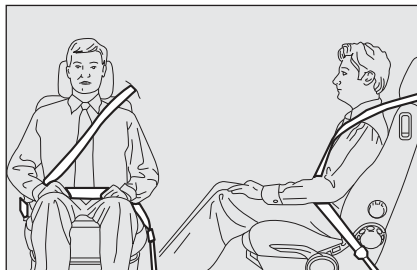

fig. 3
**IMPORTANT** The belt must not be twisted. The upper part must cross the shoulder and the chest diagonally. The lower part must fit the hips (as shown in **fig. 3**) rather than the abdomen of the passenger. Do not use devices (clips, etc.) to hold the seat belt away from your body.